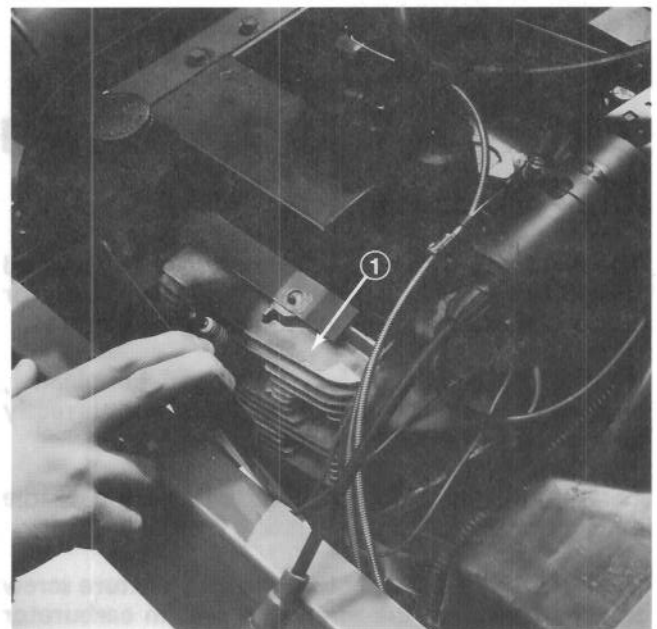

Figure 58
3. Prying housing away from engine, clean dirt, grass and chaff from outside of cylinder and cylinder head fins (Fig. 58).